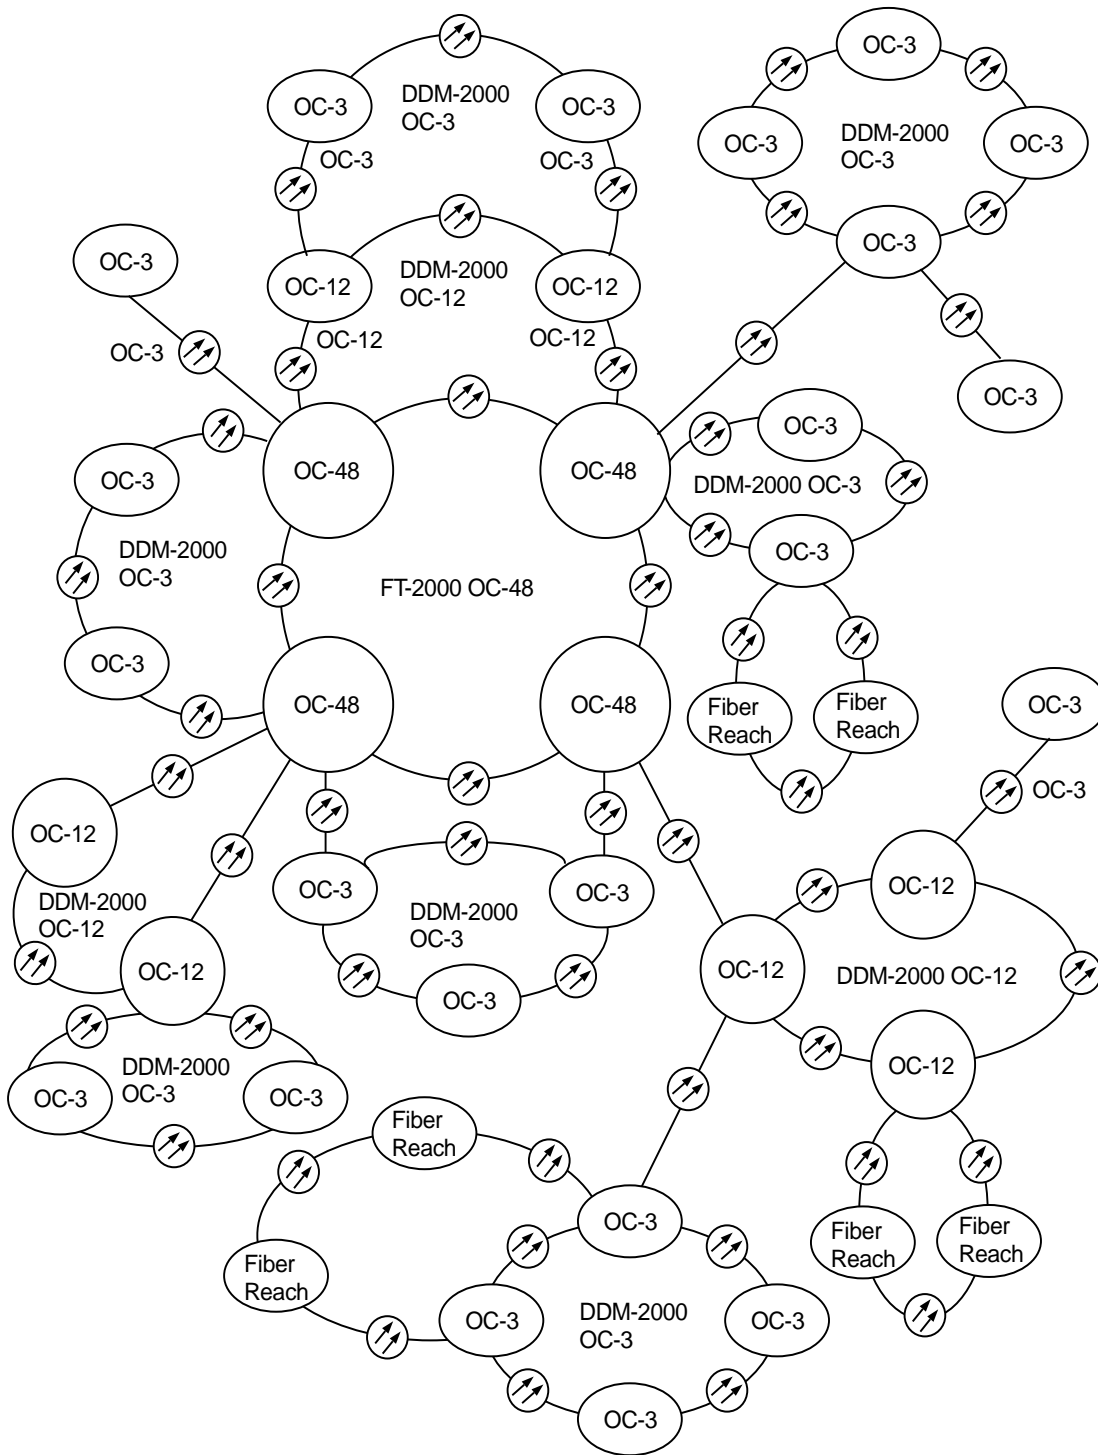
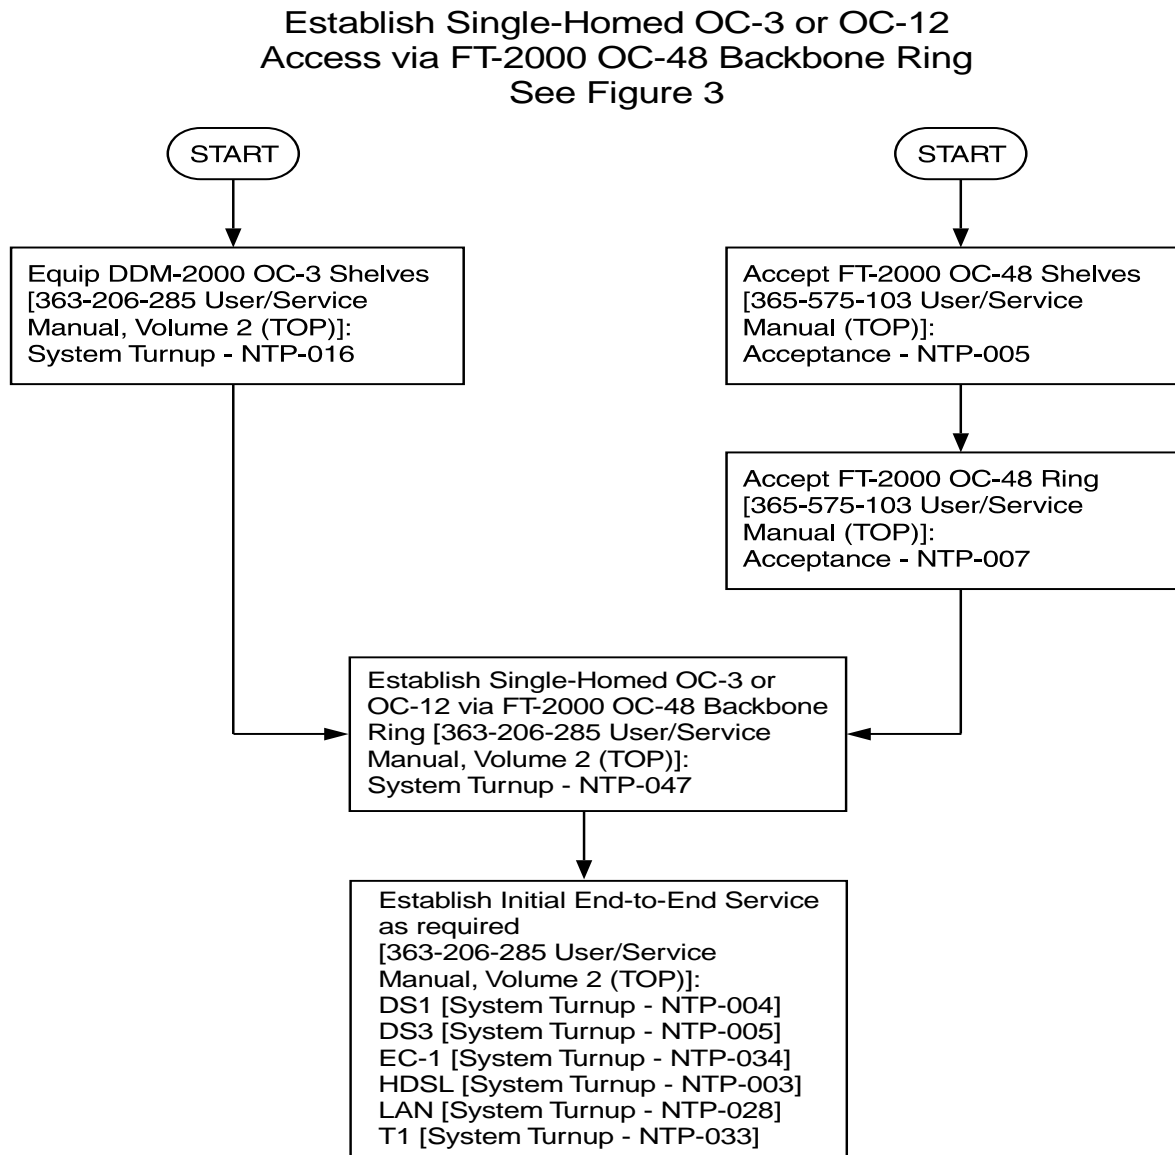
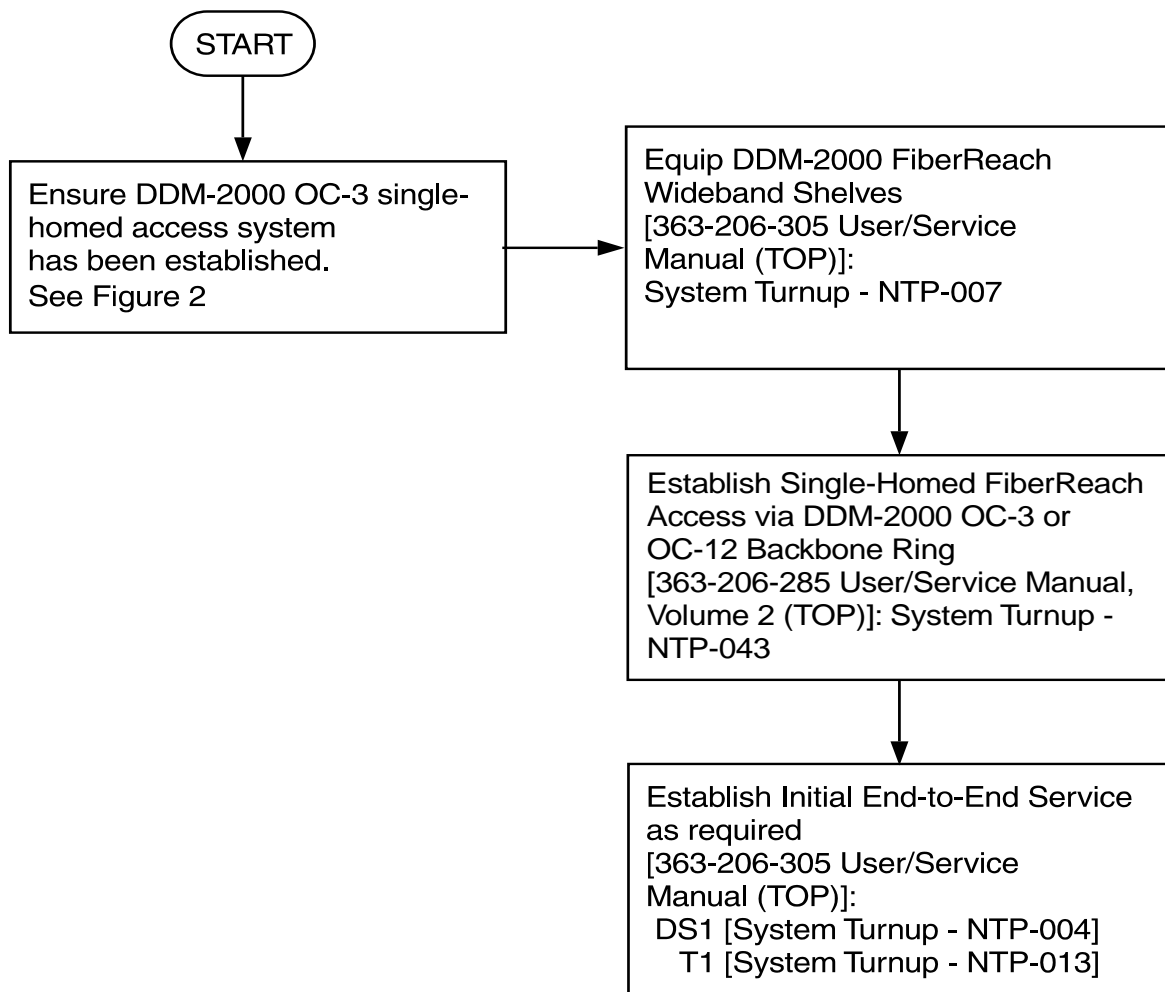

Figure 1 – DDM-2000/FT-2000 Large Network Configurations
Figure 2 – DDM-2000/FT-2000 Large Network Configurations — Single Homed OC-3 or OC-12 Access via FT-2000 Backbone Ring
Figure 6 – DDM-2000/FT-2000 Large Network Configurations — Single-Homed FiberReach Access via DDM-2000 OC-3 or OC-12 Backbone Ring
The figures in this section show a variety of subnetwork configurations and associated flow diagrams. Figure 1 depicts a large network configuration consisting of FT-2000 OC-48, DDM-2000 OC-3, OC-12, and FiberReach. The remainder of the figures illustrate individual subnetworks necessary to establish the large network configuration. Some subnetwork configurations can be established as stand-alone subnetworks and added later to the overall large network configuration (For Example, the OC-3 ring subnetworks in Figures 6 and 7). Other subnetworks require you establish the host subnetwork first (For Example, the single-homed OC-3 access ring via the FT-2000 ring in Figures 2 and 3). The shaded areas in each figure show the configuration being established.
- Figure 2 DDM-2000/FT-2000 Large Network Configurations — Single Homed OC-3 or OC-12 Access via FT-2000 Backbone Ring
- Figure 6 DDM-2000/FT-2000 Large Network Configurations — Single-Homed FiberReach Access via DDM-2000 OC-3 or OC-12 Backbone Ring